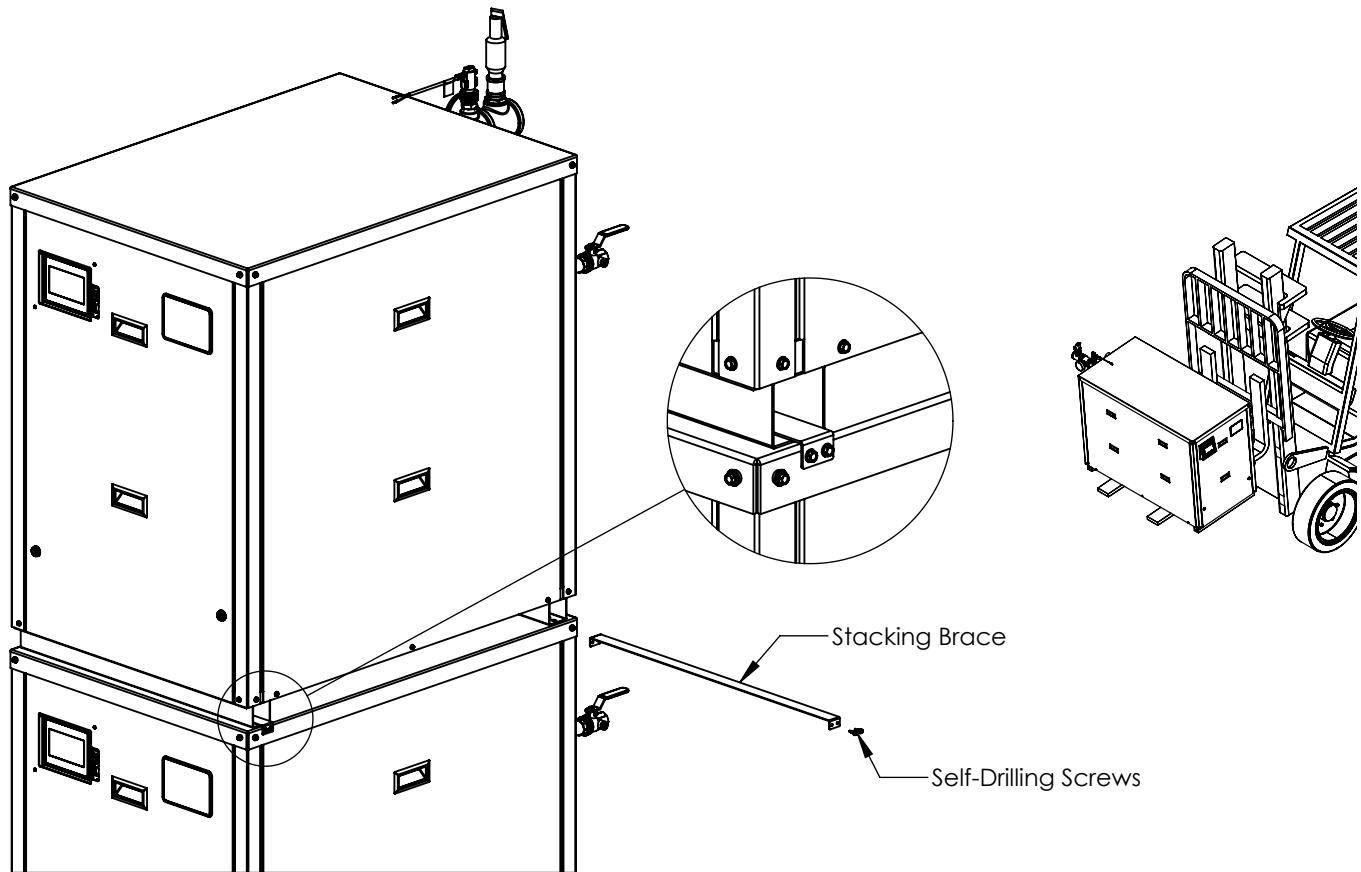

Figure 8: Lifting and Stacked Mounting
- b. Use the included screws to secure the brace as shown in Figure 8.